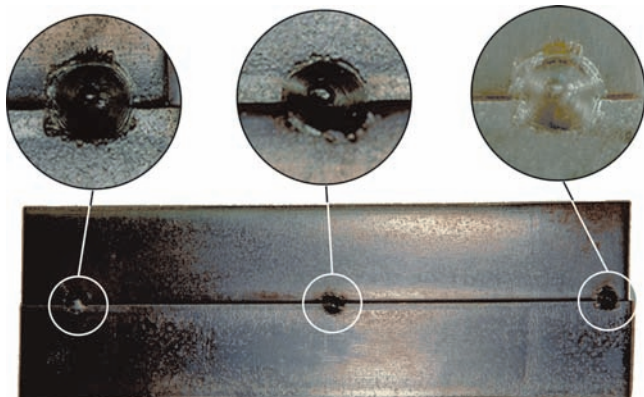

FIGURE 12-30 Use enough tack welds to keep the joint in alignment during welding. Small tack welds are easier to weld over without adversely affecting the weld.
- Tack weld the sheets together and place them flat on the welding table, Figure 12-30.